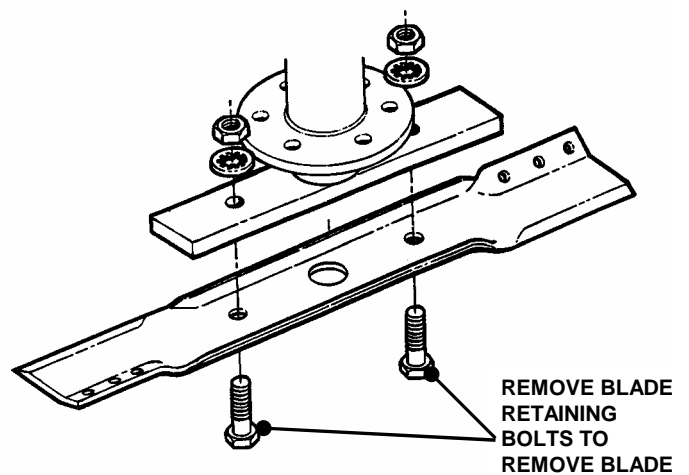

FIGURE 4.2
3. Remove blade. See Figure 4.2.
6. Reinstall blade. See Figure 4.2. Check torque of blade retaining bolts. Recommended torque should be 30 to 40 ft. lbs.